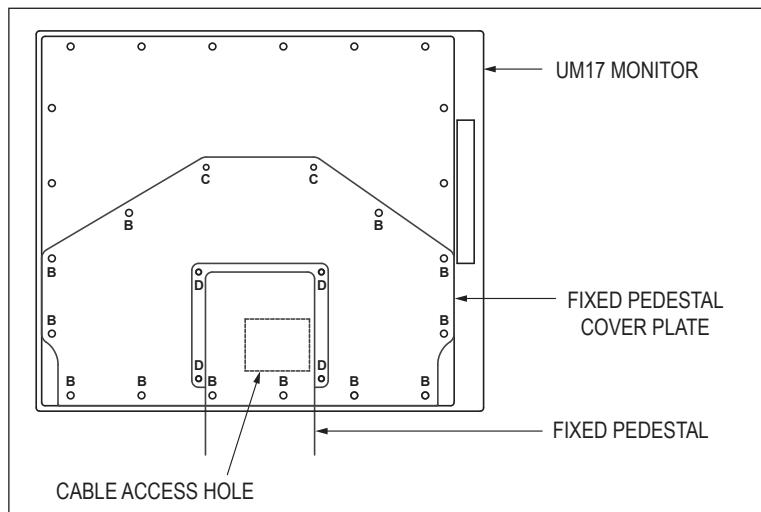

FIGURE 3
6. Refer to Figure 3. Route cables through the cable access hole on the fixed pedestal cover plate.
7. Install the provided two M4 sealing screws and washers in the locations marked "C" in Figure 3. Tighten all screws until the gasket is approximately 1/16" to 3/32" thick.
8. Use the twelve 10-32 screws and washers that were removed in step 4 and install them in the locations marked "B" in Figure 3. Tighten all screws until the gasket is approximately 1/16" to 3/32" thick.
9. Refer to Figure 3. Route cables into the pedestal by positioning and supporting the monitor so that the cables exiting from the monitor can be easily routed into the top of the pedestal.
10. Attach the monitor to the pedestal using the provided four 10-32 acorn nuts and nylon washers in the locations marked "D" in Figure 3.